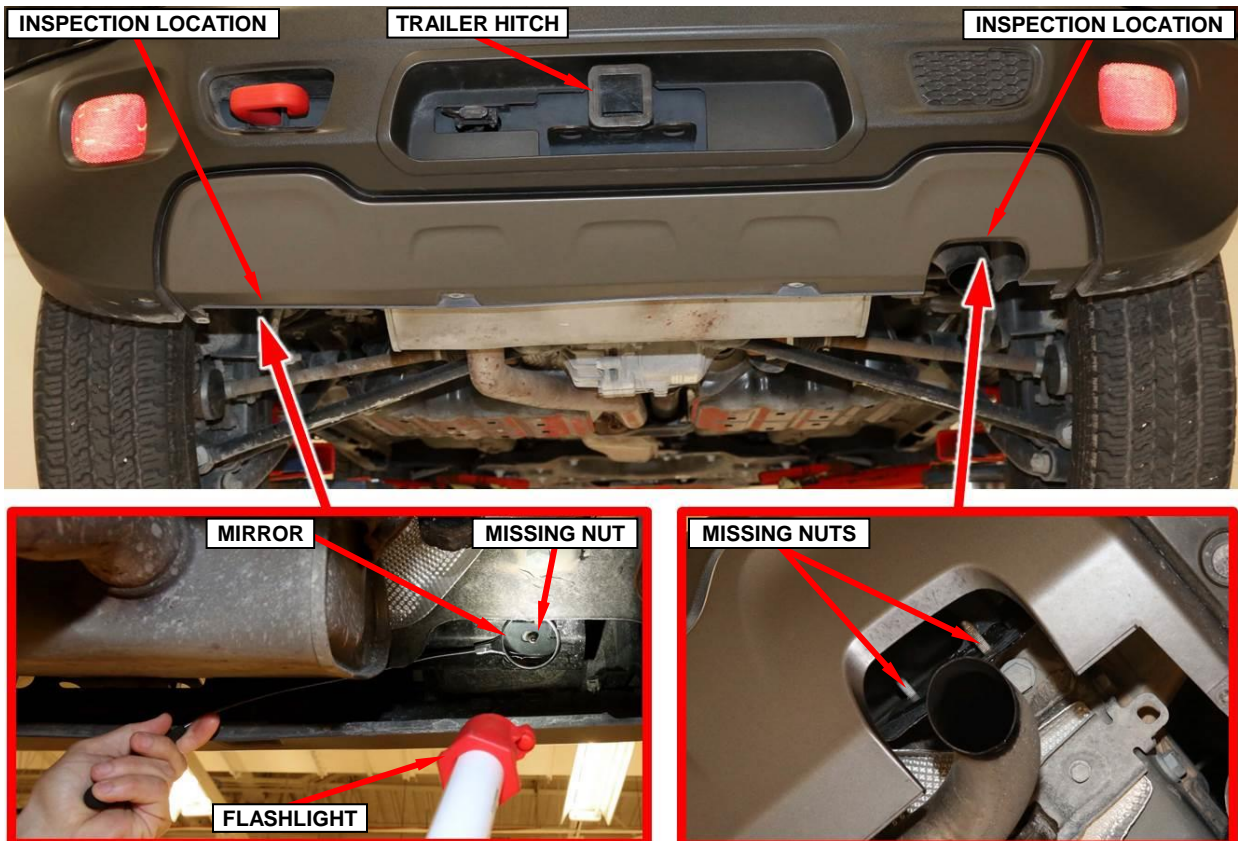

Figure 1 – Inspect Trailer Hitch-to-Body Studs for Missing Nuts
2. Using a flashlight and mirror, inspect for any missing nuts at the trailer hitch-to-body studs on the left and right sides of the vehicle. Three nuts per side, six nuts total should be visible (Figure 1).